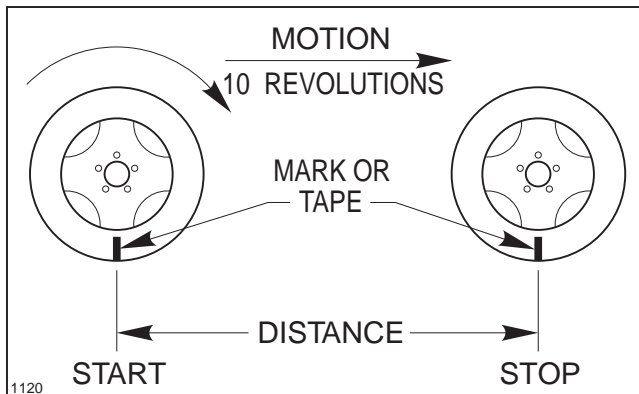

FIG. 4.
1. Place chalk mark or tape on a rear vehicle tire. See FIG. 4.